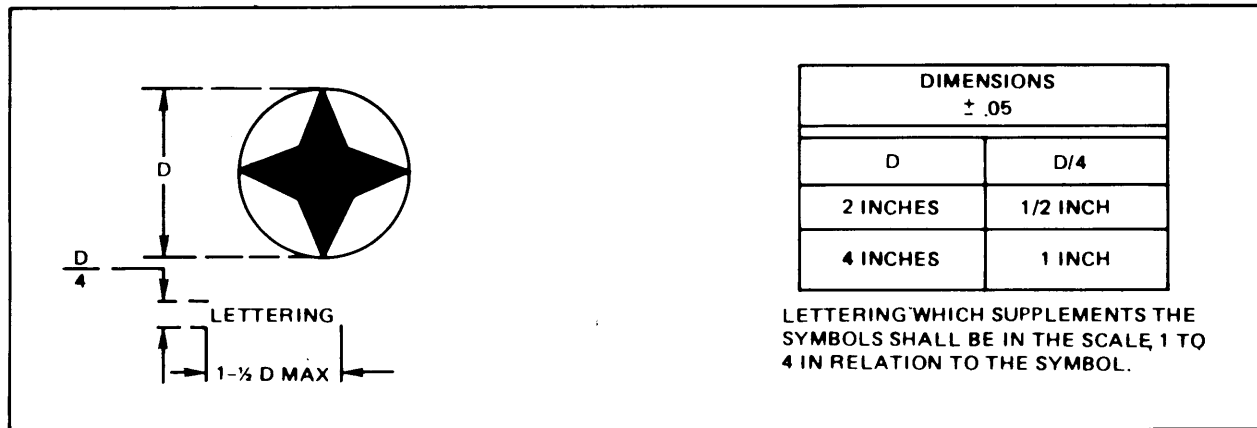

FIGURE B-1. Typical symbol dimensioning.
40.1 Servicing and precautioning marking. The servicing and precautionary markings for aircraft shall be in accordance with the symbols shown and as described herein. Symbols shall be approximately 4 inches in the lowest dimension, except where otherwise specified. However, smaller sized lettering which supplement the symbols may be used if required by the item or area to be marked. Lettering which supplements the symbols shall be in the scale 1 to 4 in relation to the symbol (see figure B-1).